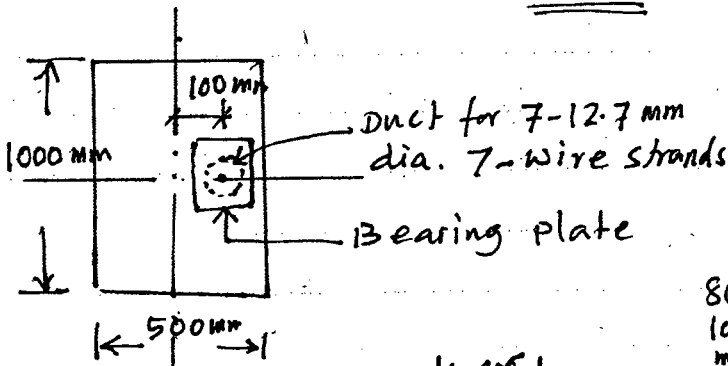
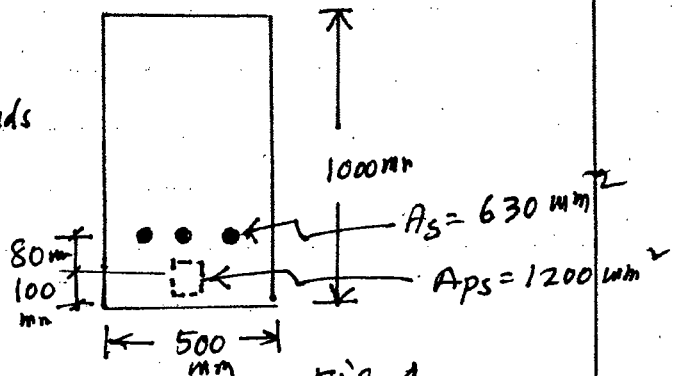

Fig. 3
Fig. 4
- (c) Determine the bearing plate area required for the tendons shown in Fig. 3. Follow the specification of the PTI (Post-tensioning Institute) for allowable bearing stresses in concrete. Use  $f'_{ci} = 28 \text{ MPa}$ ;  $f'_c = 35 \text{ MPa}$ ; maximum jacking force = 2000 kN and force at service load = 1500 kN. (9)
3. (a) Explain the importance of transfer bond in a pretensioned concrete member. (5)
- (b) Explain the importance of transverse tension in the anchorage zone of a post tensioned concrete beam. (5)
- (c) Determine the ultimate moment capacity of the section (Fig. 4) of a prestressed and reinforced concrete combination system. Use  $f'_c = 30 \text{ MPa}$ ;  $E_p = 200000 \text{ MPa}$ ;  $E_c = 30000 \text{ MPa}$ ;  $f_{pu} = 1860 \text{ MPa}$ ;  $f_y = 414 \text{ MPa}$ ; and effective prestress,  $f_{se} = 1000 \text{ MPa}$ . Follow any method for your calculation. You can assume stress-strain behavior for both mild steel and high strength steel (if required). (13  $\frac{1}{3}$ )